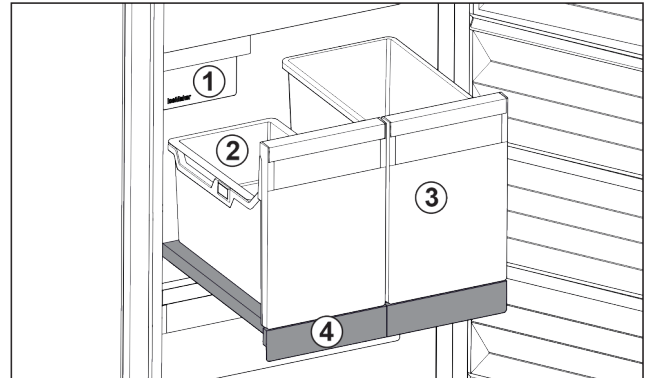

Fig. 117 Pull-out board with IceTower
There are two high (IceTower) containers on the pull-out board. Ice cubes from the IceMaker are collected and stored in the Fig. 117 (2) container. The container Fig. 117 (3) is suitable for storing tall foodstuffs or beverages such as pizzas or alcoholic drinks.